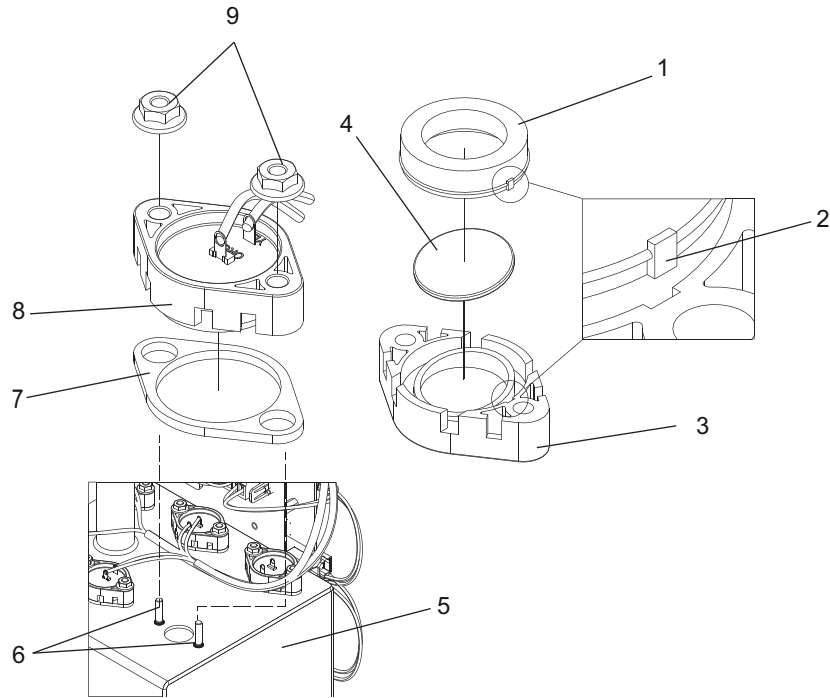

Figure 20 - Replacing Piezoelectric Transducers
4. Remove the two nuts that secure the transducer holder to the water reservoir. Lift the transducer holder upward to remove it from the reservoir. Refer to Figure 20 on page 50.
1. Position the new transducer over the threaded studs and slide it downward. Make sure the transducer is mounted in the right direction. The contacts on the transducer holder should point to the center of the water tank. Refer to Figure 20 on page 50.